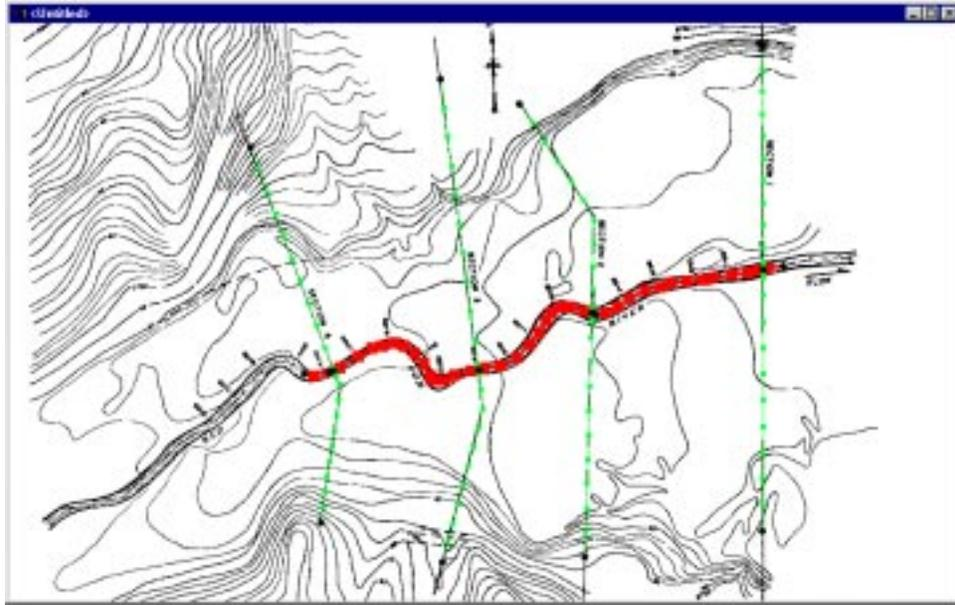

Figure 15-3 The *redfox\_a.map* data.
2. Open the file named *redfox\_a.map* from the *tutorial* directory. The map file contains arcs as shown in Figure 15-3.